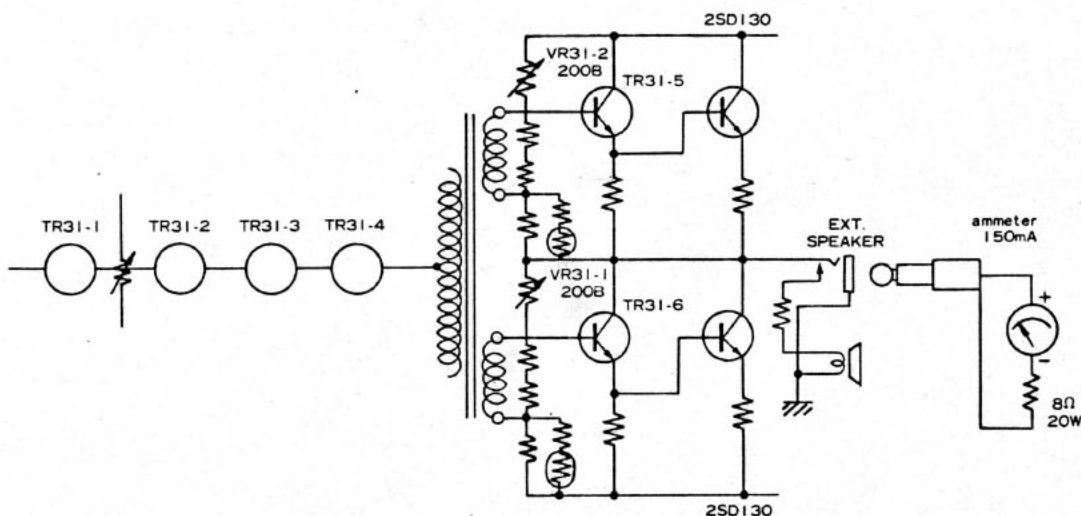

Fig. 1
- As shown in Fig. 1, connect the AM Meter (100 mA–150 mA scale) and a resistor (8Ω 20W) to the External Speaker Jack.